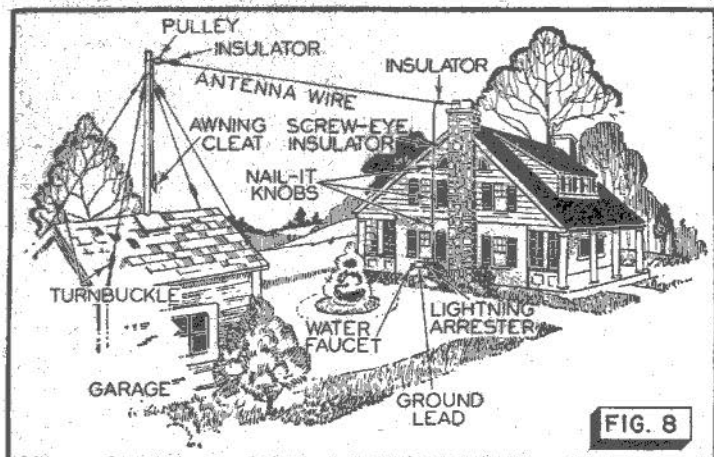

FIG. 8
► Now, as an example, let's suppose you are making an installation similar to that shown in Fig. 8. A chimney is to serve as one support. To fasten the antenna to the chimney, loop a length of galvanized guy wire (No. 12 or 14 wire) around the chimney. Be careful that the guy wire does not cut between bricks of the chimney, for the mortar is easily cut away, and the guy wire can actually clip the top from a chimney. Fasten the guy wire so that it is against brick all the way around, if possible.
The installation in Fig. 8 requires a mast—we'll describe how to construct it in this Booklet. For now, let's assume that you have the proper mast assembly ready for erection. It should have a pulley fastened to it near its top. Thread a rope or guy wire through this pulley, then get on top of the garage and set the mast in place. Anchor the mast upright with guy wires fastened to the roof. These guy wires should have turnbuckles in
The kind of mast shown in Fig. 8 may be made of 2" x 2" timber in some standard lengths, such as 6, 8, or 10 feet. There must be a support for the bottom end of the mast so that it will not punch its way through the roof. It is possible to use two pieces of wood to make a saddle for the roof, or, if the roof is flat, the mast can be fastened at the butt end on a flat board.